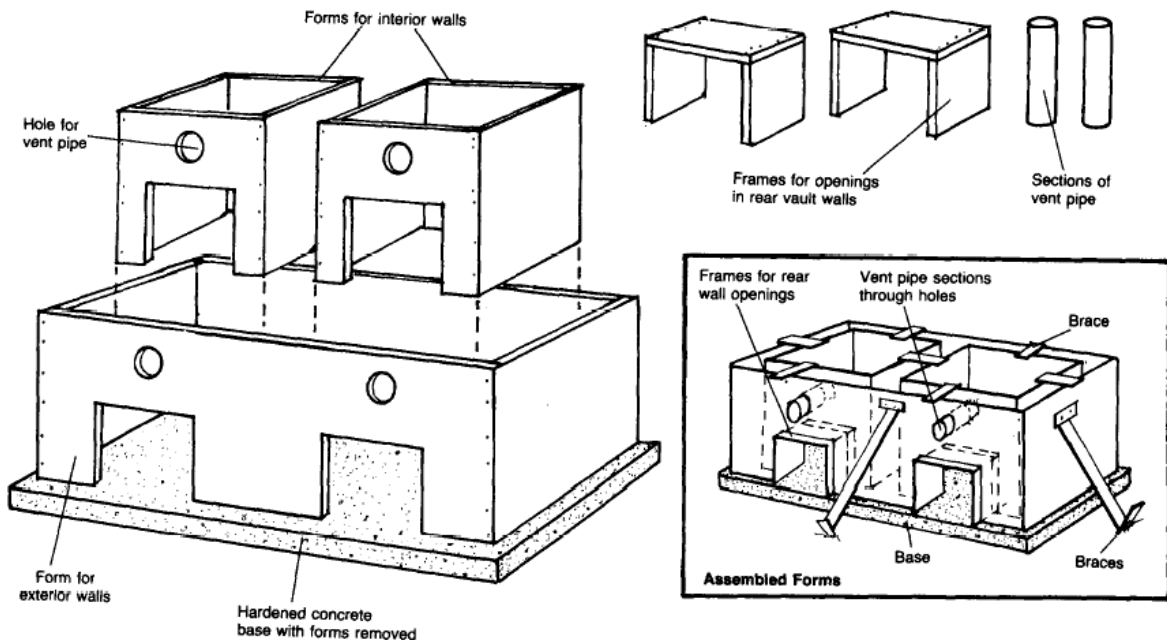

Figure 4. Forms for Concrete Walls
8. Remove the cover material and forms from the base. Build forms for the vault walls. Build and opening in the rear wall of each vault for compost removal. Set a section of vent pipe into the rear forms for installation of the vents. Secure reinforcing material in place inside the forms. Brace the forms to be certain that they hold together when the concrete is poured. See figure 4.